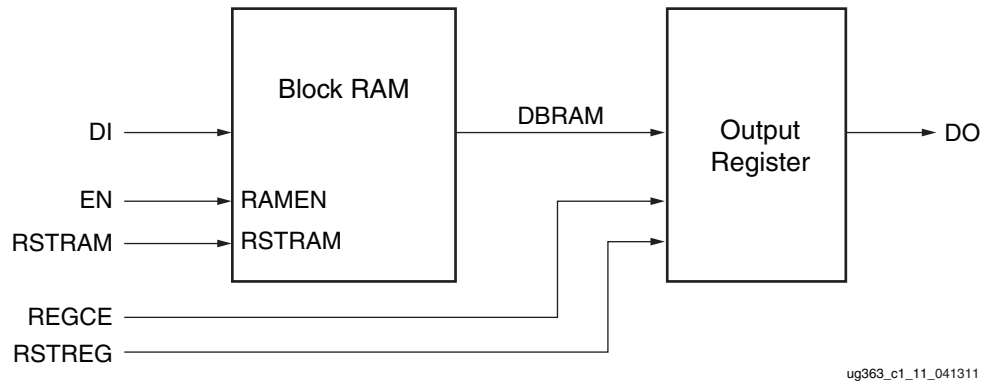
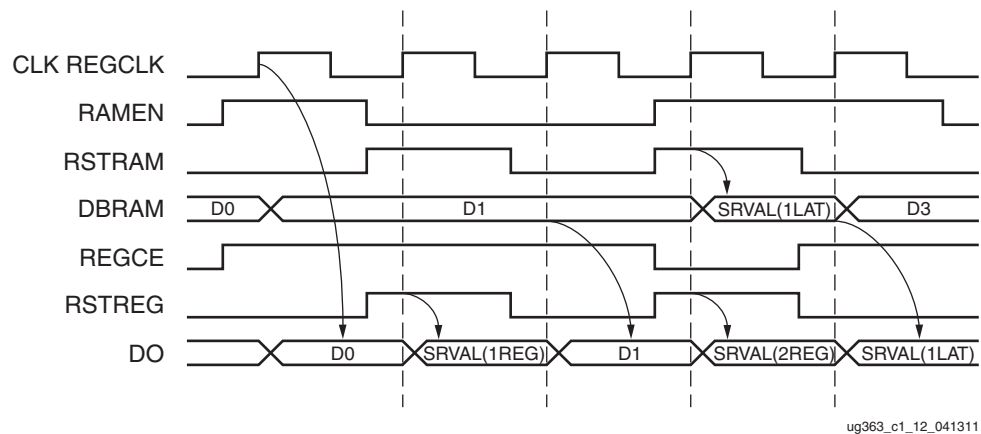
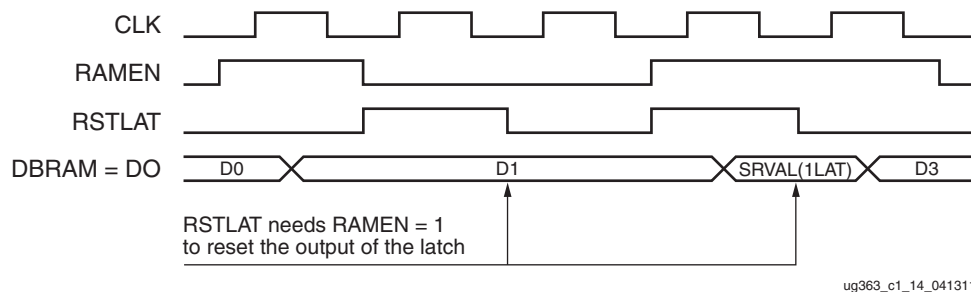

Figure 1-11: Block RAM RSTREG in Register Mode
Figure 1-12: Block RAM Reset Operation in RSTREG Mode
Figure 1-14: Block RAM Reset Operation in Latch Mode
A block RAM RSTREG in register mode can be used to control the output register as a true pipeline register independent of the block RAM. As shown in Figure 1-11, block RAM can be read and written independent of register enable or set/reset. In register mode RSTREG sets DO to the SRVAL and data can be read from the block RAM to DBRAM. Data at DBRAM can be clocked out (DO) on the next cycle. The timing diagrams in Figure 1-12 through Figure 1-14 show different cases of the RSTREG operation.